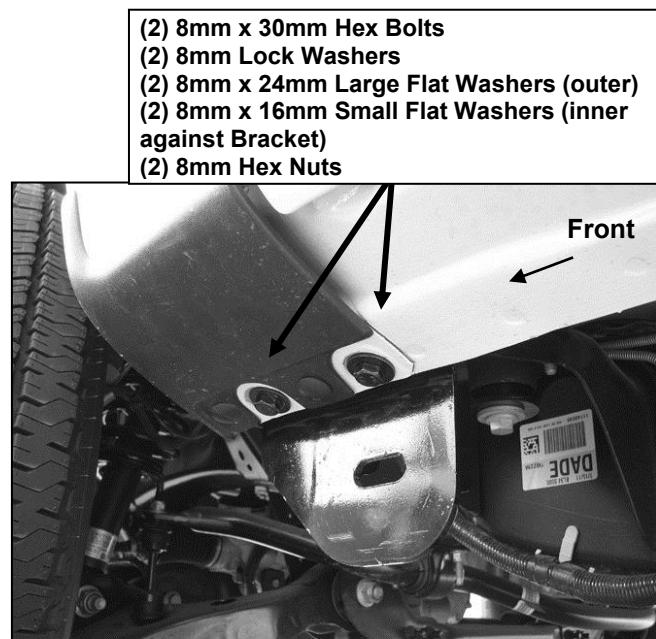

**Fig 1A** Front
1. Starting at the front of the driver side of the vehicle, remove the two small hex bolts and the metal clips holding the bottom of the fender to the body, **(Figure 1A)**. **NOTE:** Use a small flat screwdriver to spread the clip apart for easy removal. Due to body panel misalignment from the factory, it may be necessary to open these holes slightly with a 3/8" drill bit, **(Figure 1B)**.